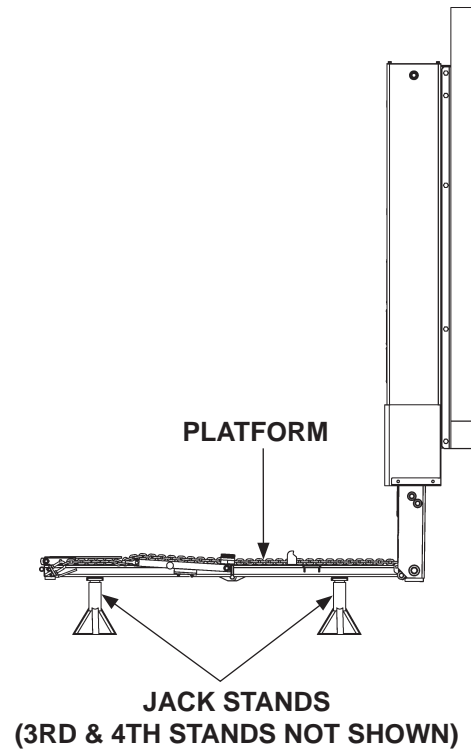

FIG. 3-1
3. Raise the platform (**UP**) slightly and place 2 more jack stands near the inboard edge (**FIG. 3-1**).